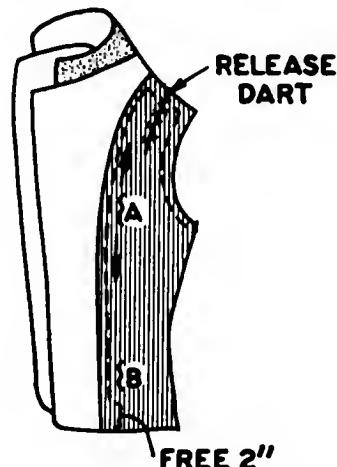

Fig. 249. The lining basted into position.
Check the grain at the bustline. Turn under the front edge of the lining, lapping over onto the facing, working from the bustline up and the bustline downward. Baste into position. The lining will be eased at the bustline (Fig. 249, A) and the hip (Fig. 249, B), not taut. Check, fold in, and
- F. Tailor-baste across the shoulder and around the armseye about 1 in. from the seamline. Do not turn under the front lining at the shoulder seam. At the shoulder, permanent-baste the seam of the lining to the coat-pad reinforcement. If you are working with the garment on a form, turn the right side out before doing the permanent basting to check the ease of the lining over the pad (Fig. 249).